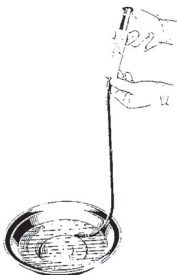

Fig. 5
1. Use a sterile syringe to flush the lumen of the prosthesis with 20 ml of sterile physiological saline. Fig. 5. Repeat at least twice.